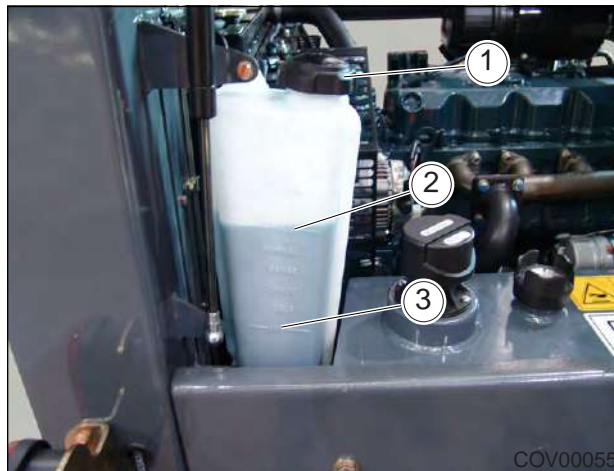

Figure 9.11 - Cooling System Expansion Tank
This operation must only be performed by topping-up the plastic expansion tank, Figure 9.11 to maintain coolant level within the Full (Maximum) (2) and Add (Minimum) (3) marks on expansion tank. The tank is accessible when the engine cover is open.